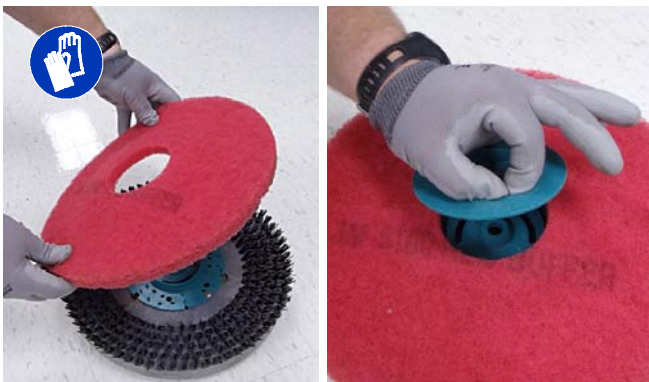

FIG. 9
- Attach the pad to the pad driver before installing the driver. Secure pad with center-lock (Figure 9).